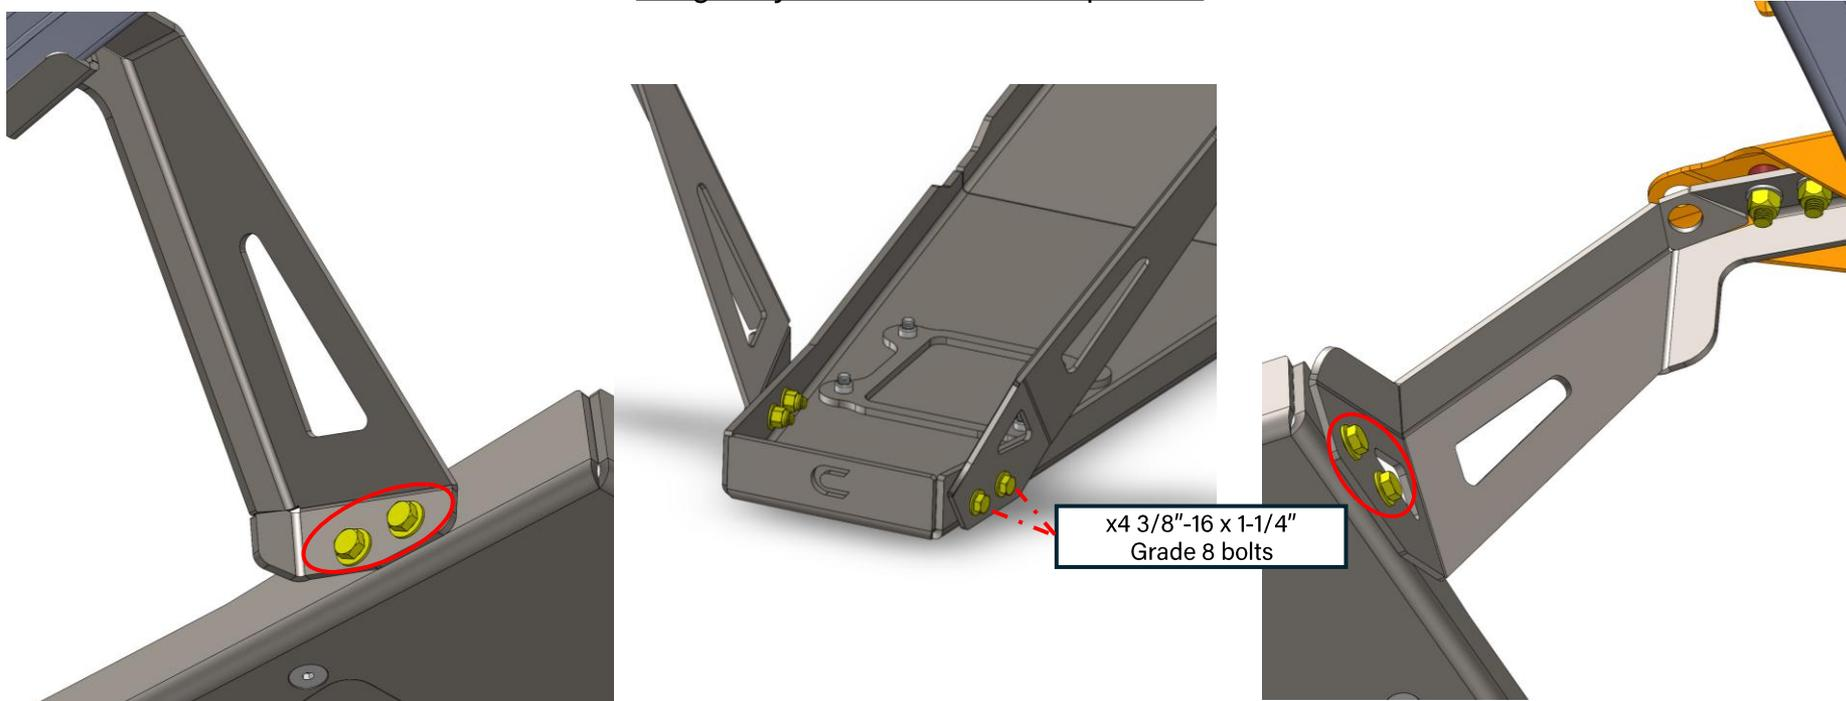

Figure 39: New skid plate installed at OEM 3.6L motor mount locations and skid plate connections
32. Move to the front of the skid plate to install the remaining hardware. Install the x4 longer 3/8"-16 bolts through the holes on the engine skid plate brackets and feed them through the skid plate. **Use x2 washers for each bolt** as seen below in Figure 39. **Loosely** fasten the bolts on the inside of the skid plate with the provided lock nuts.